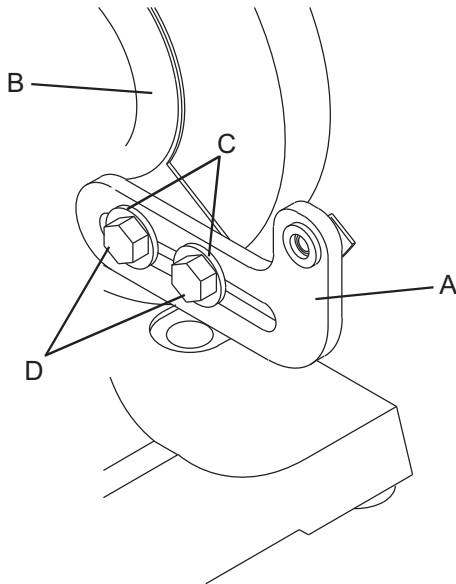

Figure 3 - Assemble Tools Rest Supports
Refer to Figures 3 and 4.
1. Assemble the Tool Rest Supports (A) to the inside surface of the Wheel Covers (B) with the flat washers (C) and hex head screws (D) as shown. See Figure 3.